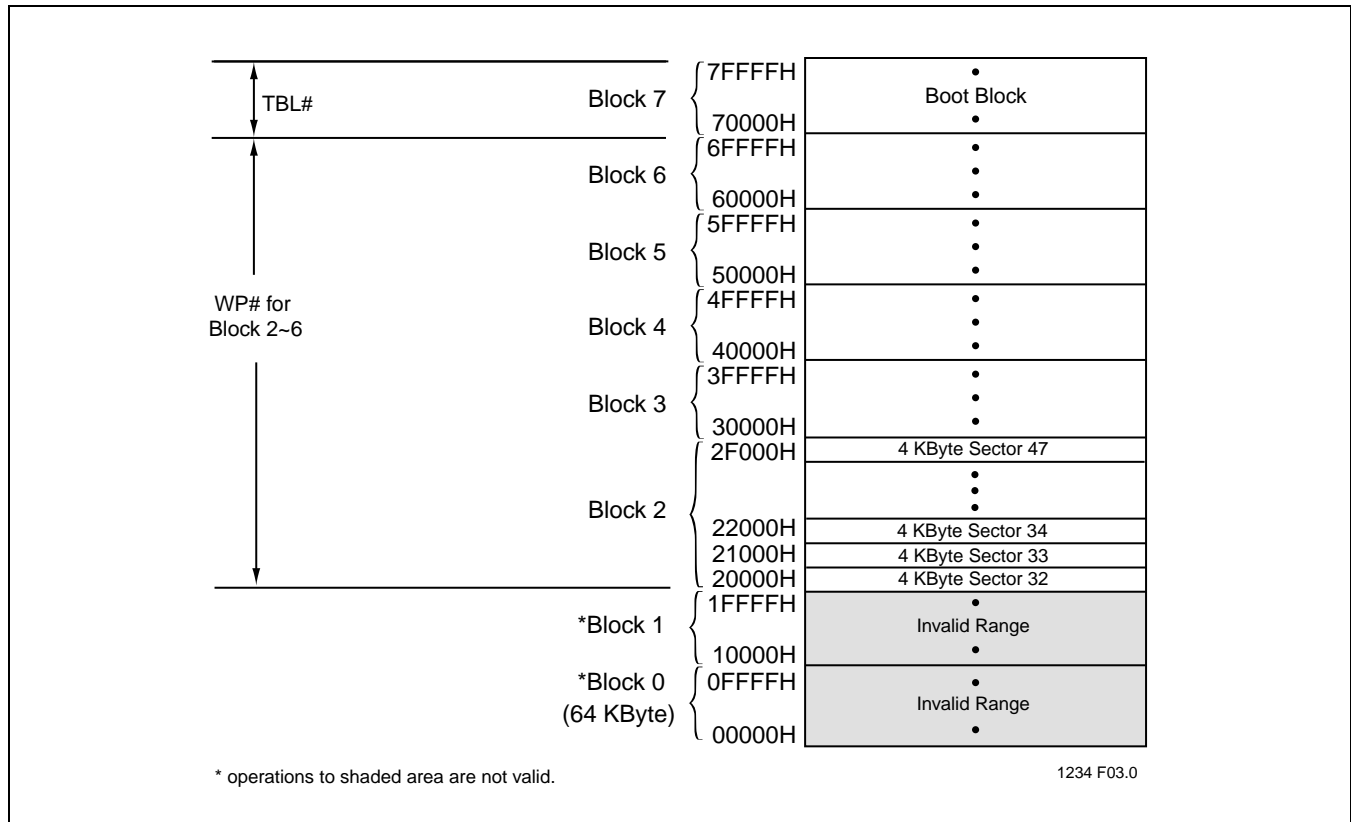

FIGURE 3: DEVICE MEMORY MAP
| FIGURE 3: Device Memory Map | 9 |
The SST49LF030A flash memory devices can operate in two distinct interface modes: the LPC mode and the Parallel Programming (PP) mode. The mode pin is used to set the interface mode selection. If the mode pin is set to logic High, the device is in PP mode. If the mode pin is set Low, the device is in the LPC mode. The mode selection pin must be configured prior to device operation. The mode pin is internally pulled down if the pin is left unconnected. In LPC mode, the device is configured to its host using standard LPC interface protocol. Communication between Host and the SST49LF030A occurs via the 4-bit I/O communication signals, LAD [3:0] and LFRAME#. In PP mode, the device is programmed via an 11-bit address and an 8-bit data I/O parallel signals. The address inputs are multiplexed in row and column selected by control signal R/C# pin. The row addresses are mapped to the lower internal addresses (A_{10-0}), and the column addresses are mapped to the higher internal addresses (A_{MS-11}). See Figure 3, the Device Memory Map, for address assignments.